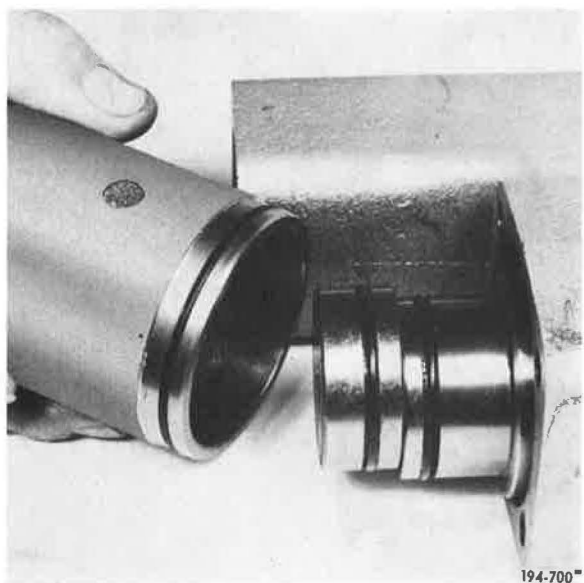

Figure 158. Removing Shift Cylinder
12. Remove Lo/Hi shift cylinder from air shift cover. See Figure 158.